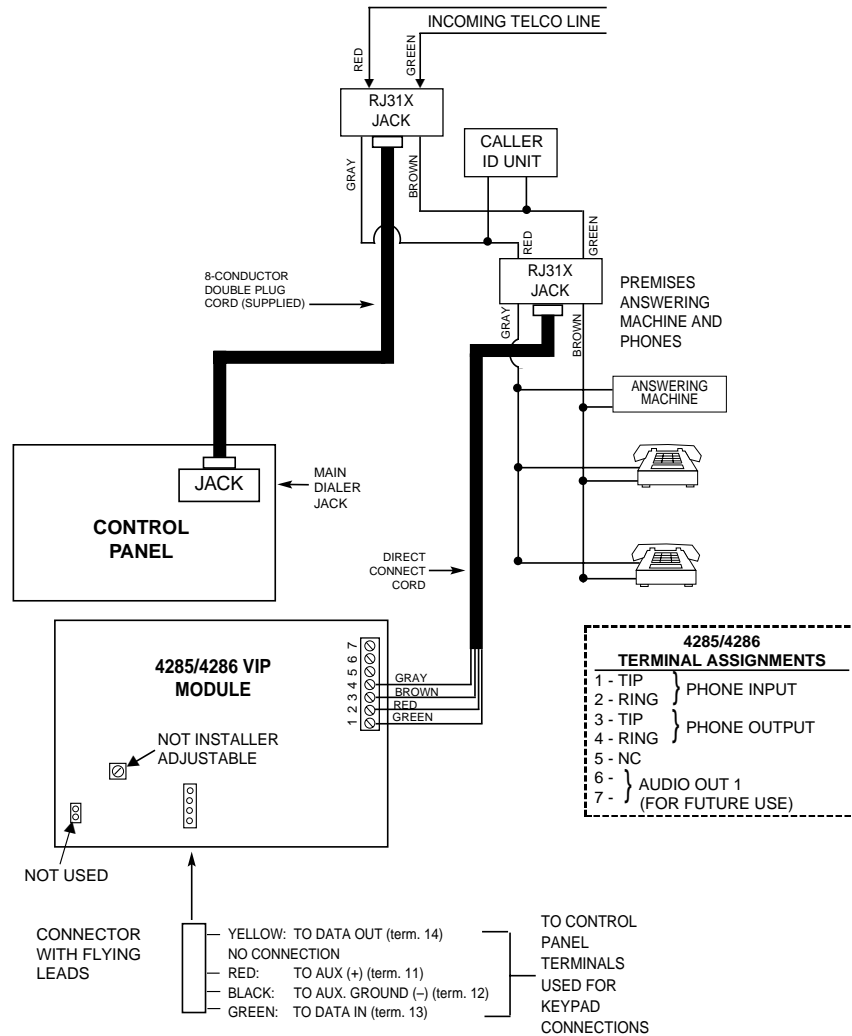

Figure 10-1: 4285/4286 VIP Module Connections
The 4285/4286 is wired between the control panel and the premises' handset(s) (see *Figure 10-1*). It listens for touch tones on the phone line and reports them to the control panel. During on-premises phone access, it powers the premises' phones; during off-premises phone access, it seizes the line from the premises' phones and any answering machines.
1. Make all connections exactly as shown in Figure 10-1. This is essential, even if the system is not connected to a central station. The 4285/4286 will not function if this is not done. If the leads on the cable are too short to reach their assigned terminals, splice additional wires to them, as required.